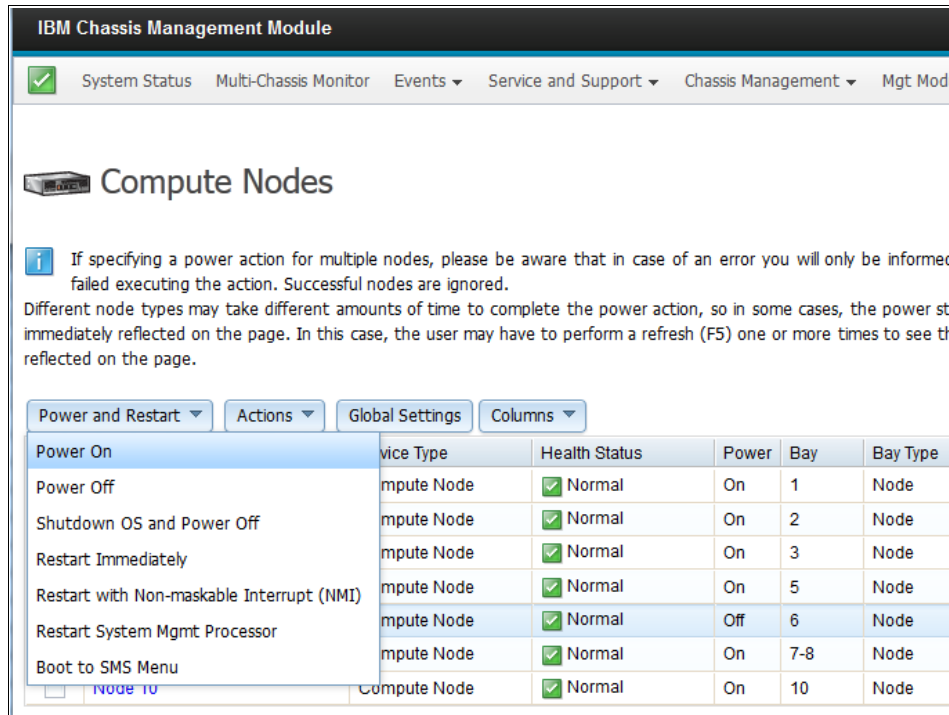

Figure 7-136 CMM Compute Node page Power On options
- On the Compute Nodes page, click the wanted node and then click the **Power and Restart** drop-down menu. Click **Power On**, as shown in Figure 7-136.